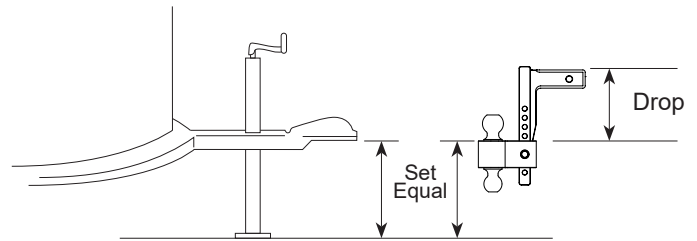

Figure 2
- Measure from the ground to the bottom of the coupler on the trailer, then lock the Ball Holder (#9) into place on the Drop Bar at that height, with the correctly sized hitch ball for your trailer coupler facing up. **See Figure 2.** You may need to invert the Drop Bar and use it in the rise position to reach the correct ball height for your particular trailer.
Figure 2: Top of ball holder height should initially be set equal to the bottom of the coupler socket height with the trailer parallel to ground, then adjusted upward to compensate for the distance it drops when the tongue weight is being carried.